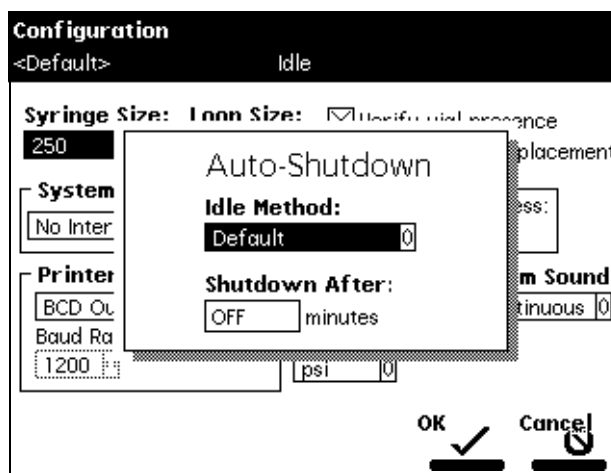

Figure 3-6 Auto-Shutdown Dialog Box
2. Press the **Auto Shutdown** screen key. The Auto-Shutdown dialog box appears, as shown in Figure 3-6.